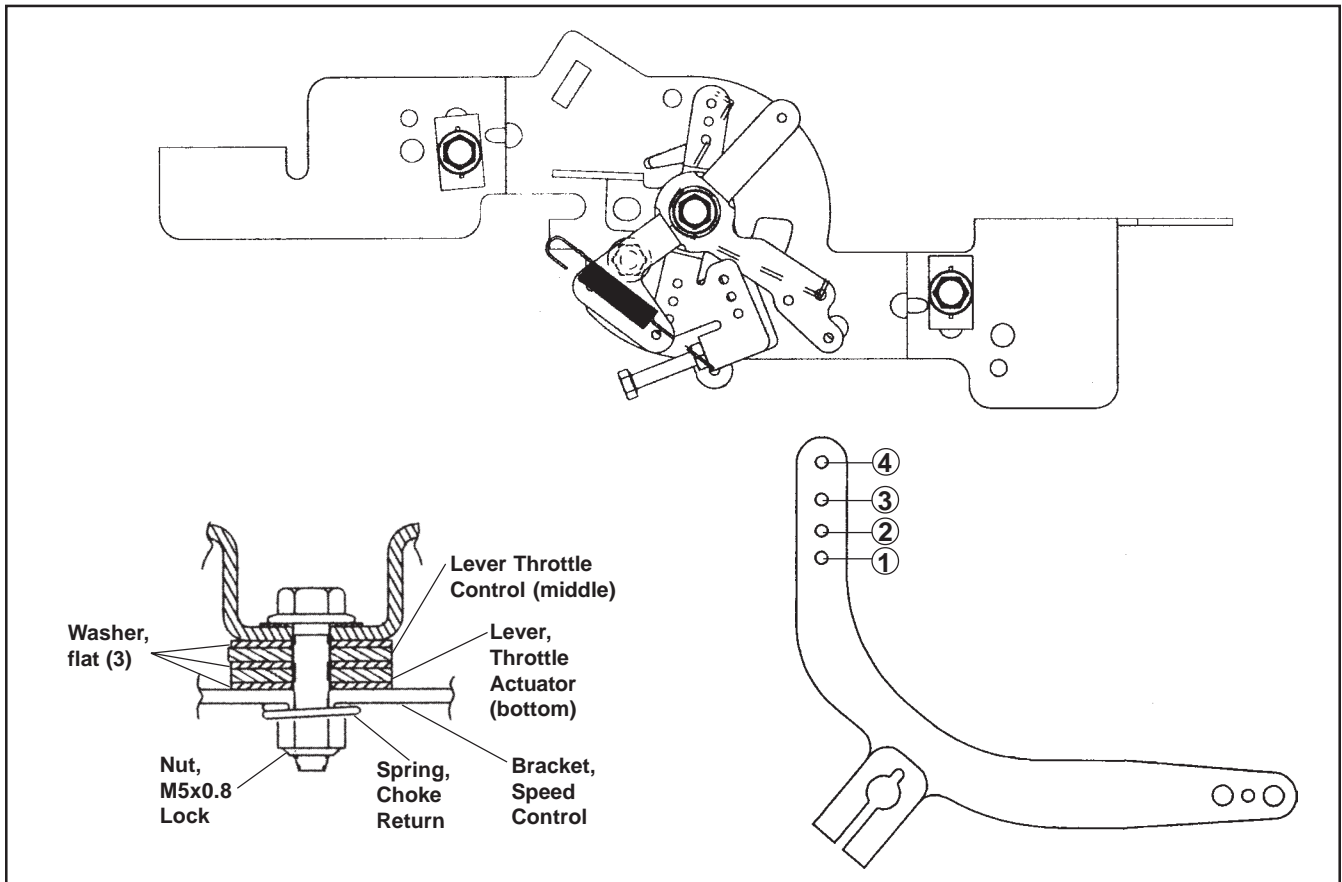

Figure 11-97. Throttle/Choke Control Bracket and Governor Lever Detail.
1. Connect the choke linkage from the carburetor into the choke actuator lever on the speed control bracket assembly. See Figure 11-97.